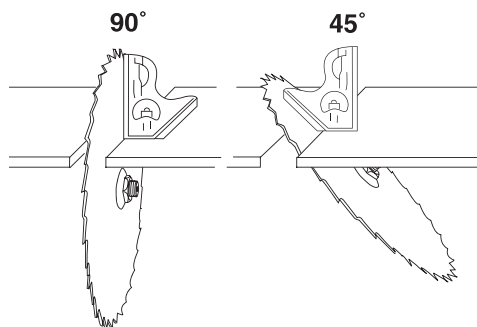

FIG. 8
3. Place a combination square on the table and against the blade to determine if the blade is at a 90° angle to the table (Fig. 8).
3. Place a combination square on the table and against the blade to determine if the blade is at a 45° angle to the table (Fig. 8).